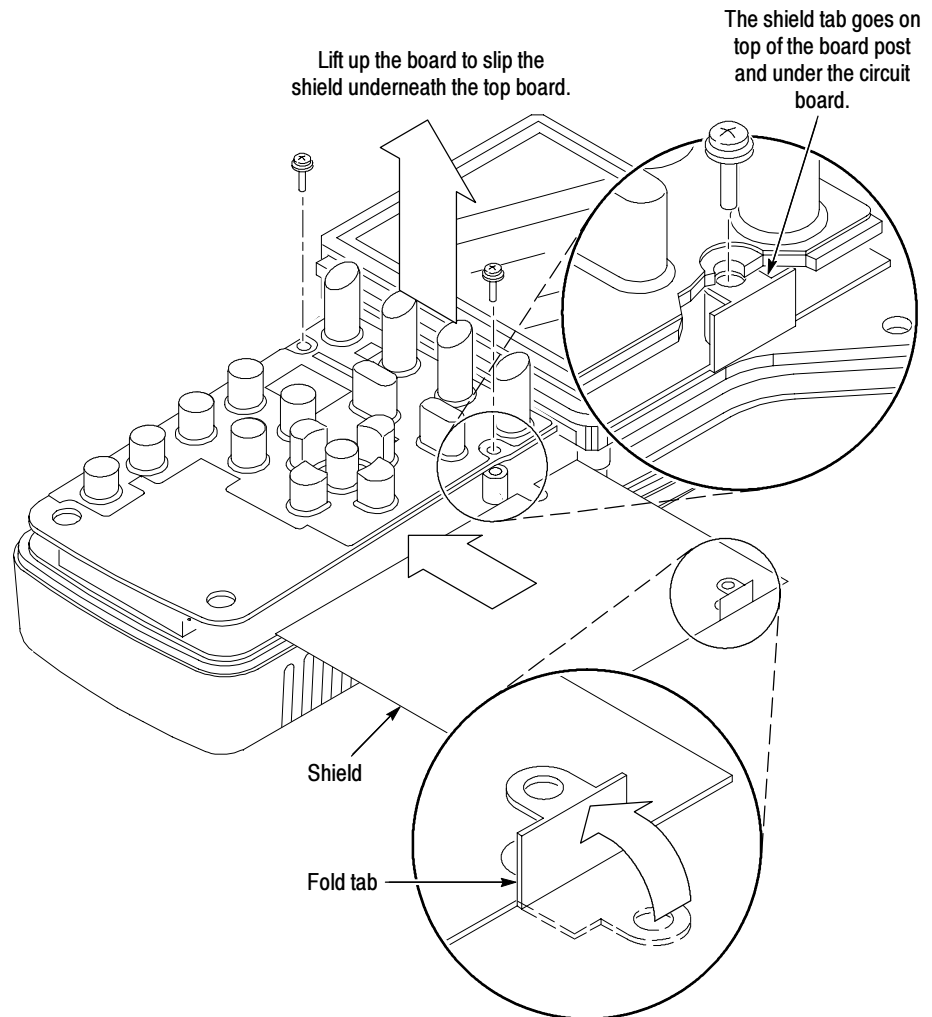

Figure 6-5: Installing the Top board shield
1. If you are replacing the Top board shield, bend the tab on the shield as shown in Figure 6-5.
NOTE. Be sure to properly align the tab of the Top board shield so that the tab is under the Top board and that the Top board retaining screw goes through the tab. Failure to do this will result in noisy display graphics. See Figure 6-5.